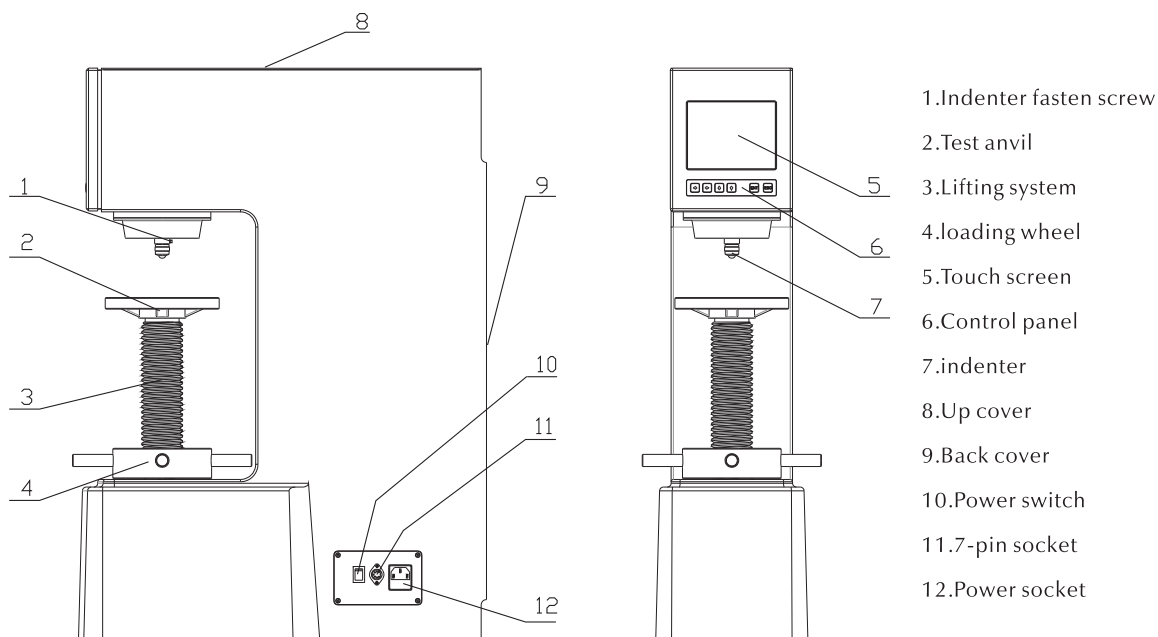
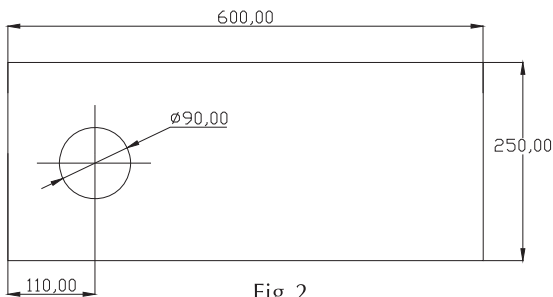

Fig. 1
Fig.2
- 3.2.3 After unpacking, the tester shall be placed on a stable and solid working table with horizontal deviation less than 1mm/m (There is a level in the accessories kit). A hole shall be drilled at a proper location on the working table (see Fig.1) to enable the Up and Down Lead Screw to operate properly. We suggest that the height of working table should be about 500mm, see Fig.2.